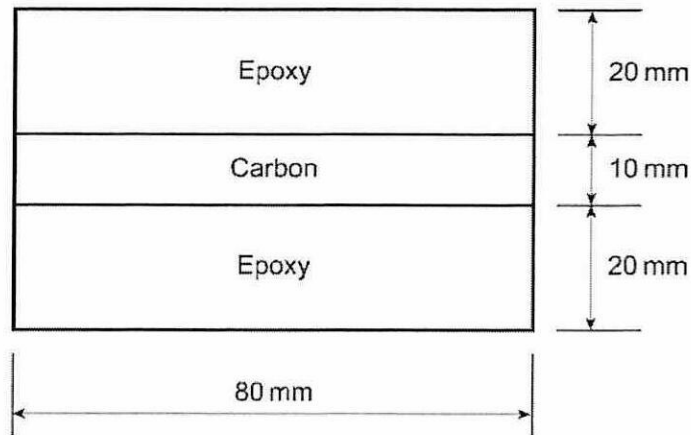

Figure Q3.2
- (b) A laminated bar, whose cross-section is shown in **Figure Q3.2**, is 1000 mm long and is composed of an epoxy resin matrix reinforced by a carbon filament having moduli equal to 5,000 N/mm² and 200,000 N/mm², respectively; the corresponding values of Poisson's ratio are 0.2 and 0.3. If the bar is subjected to an axial tensile load of 200 kN, determine: